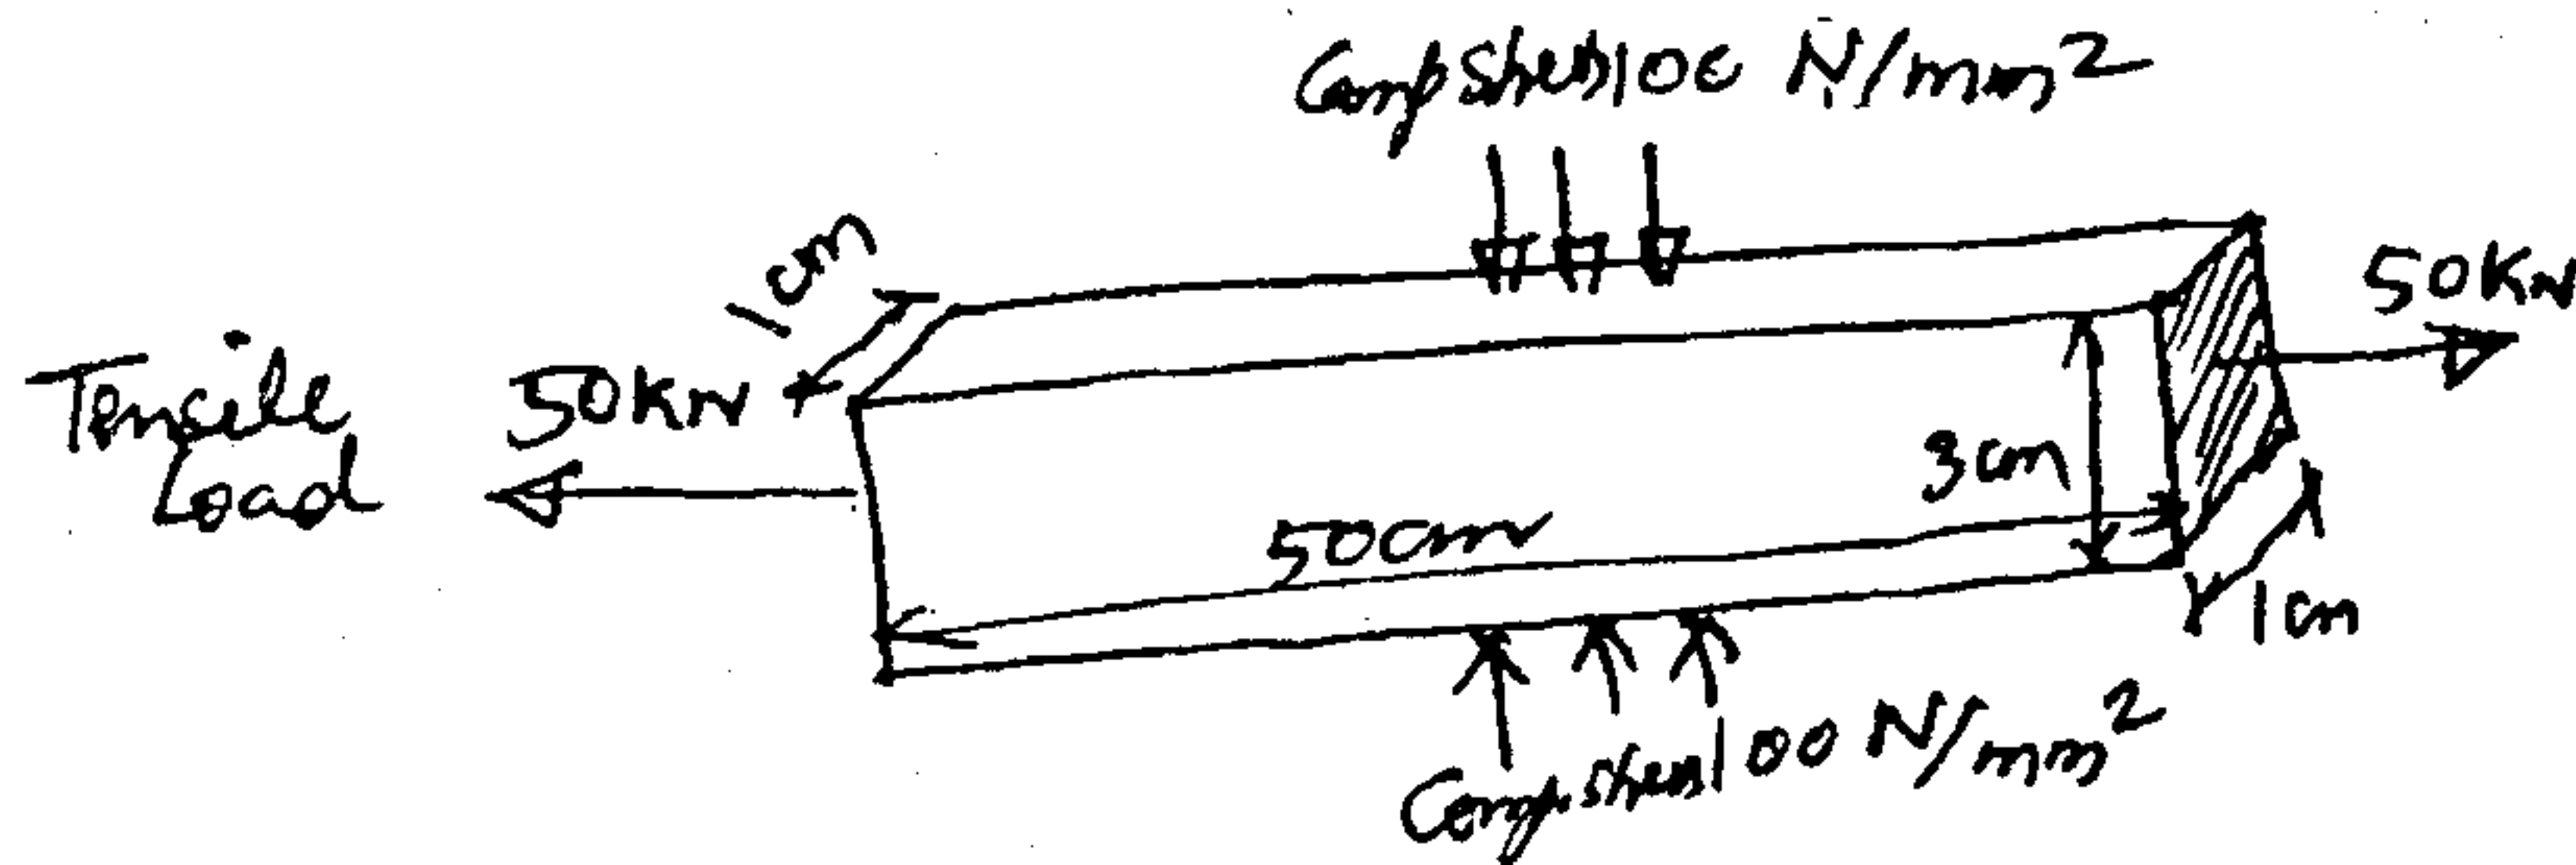

fig. Q. 11(b)(i)
- (b) (i) Find the strain energy stored in a steel bar 50 cm long and 3 cm × 1 cm in cross-section, shown in fig. Q. 11(b)(i) when it is subjected simultaneously to an axial pull of 50 kN and compressive stress of 100 N/mm2 on its narrow edge. (8)